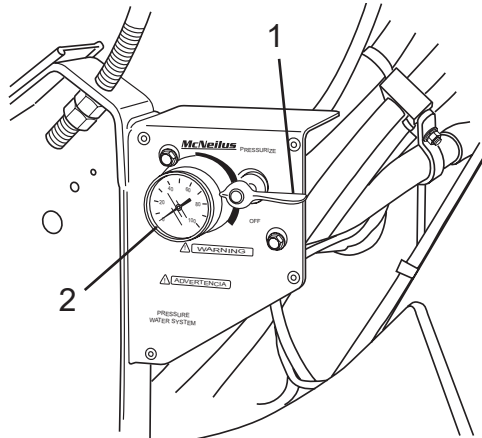

Figure 80
1. Turn air pressure control valve to EXHAUST position (Figure 80, Item 1). Make sure the gauge (Figure 80, Item 2) reads 0 psi (0 kPa).